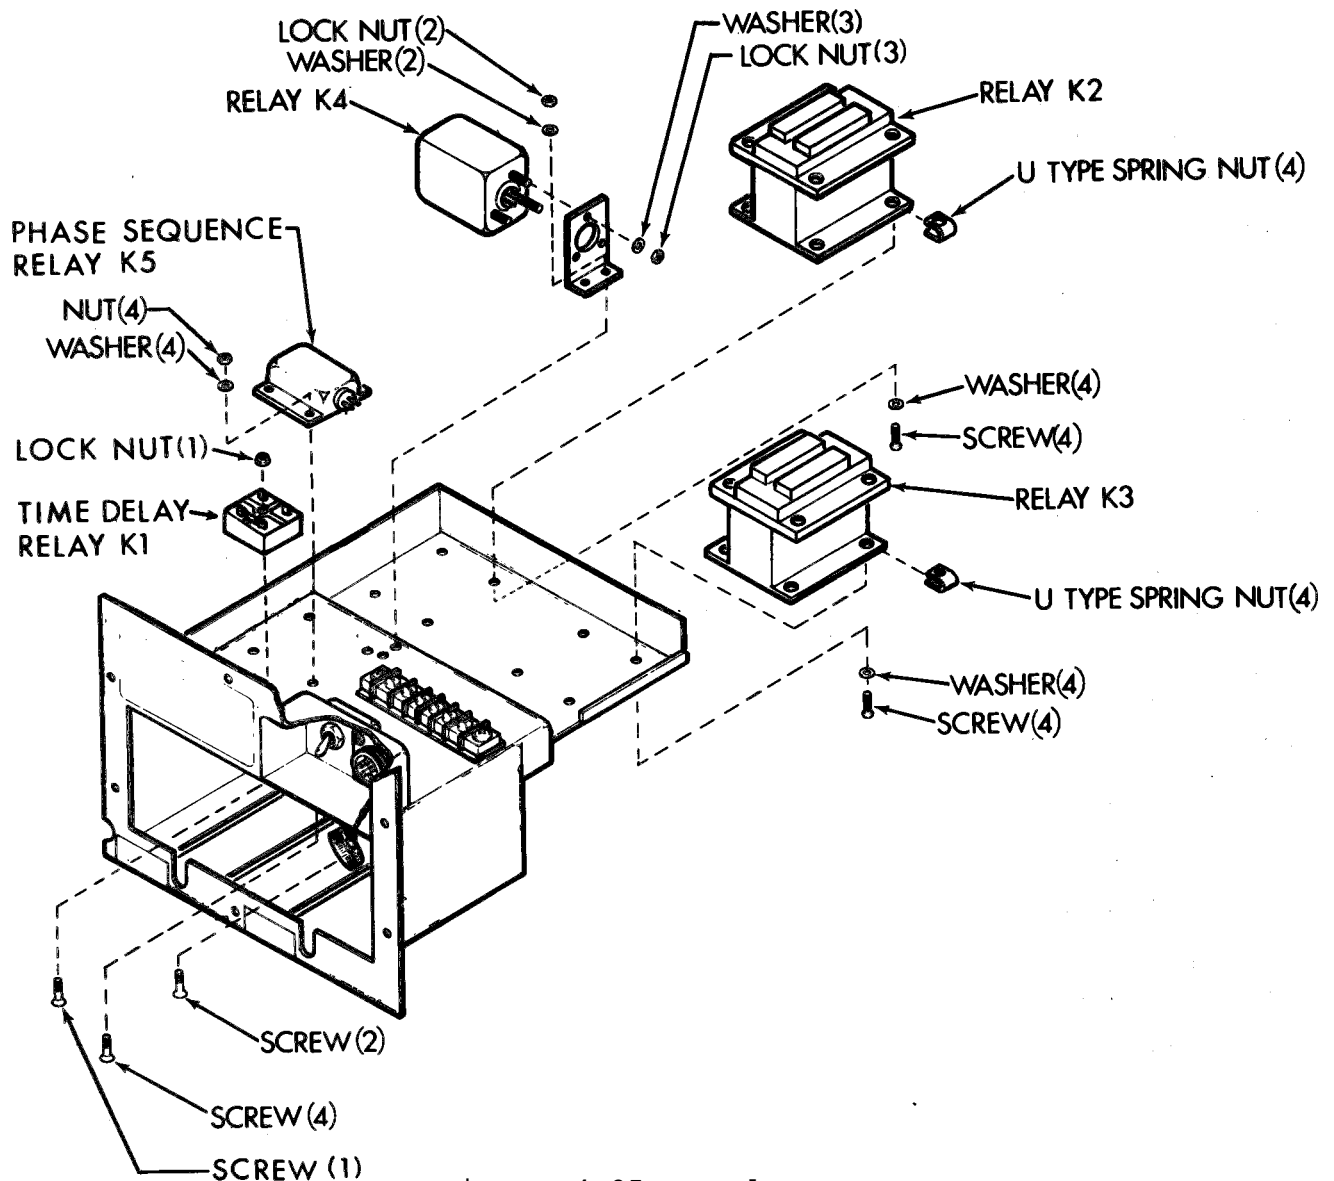

Figure 4-25. Relays
Relays K2, K3, and K4 and time delay relay K1 and phase sequence relay K5 are located in junction box. (See fig. 4-25.)
(1) Tag and disconnect wires to relay.
(2) See figure 4-25 and remove attaching hardware.
(3) Pull relay from junction box.
(1) Mount relay using hardware indicated on figure 4-25.